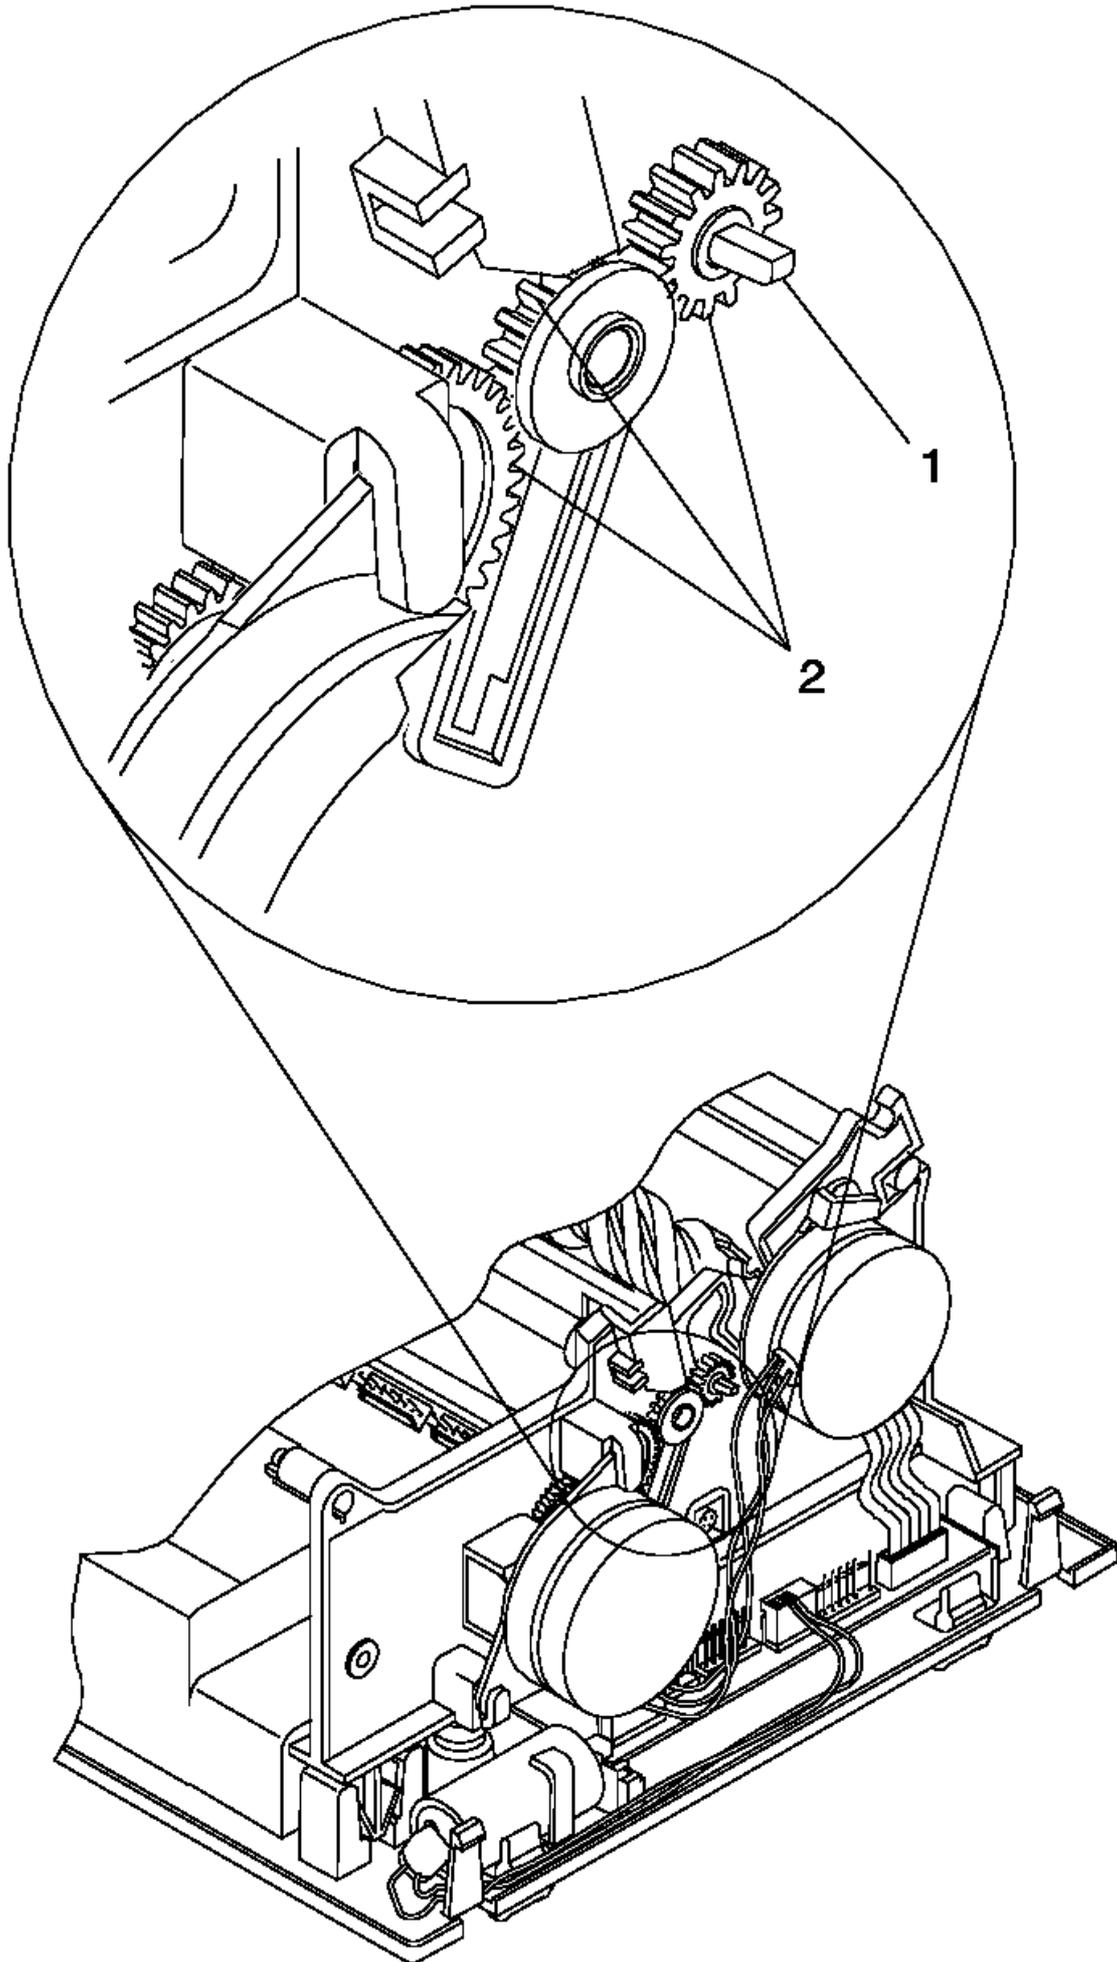

Figure 6-15. DI Gears
- Ensure that the gears, (2) in Figure 6-15, rotate and that there is no damage to their teeth.
- Ensure that the DI shaft, (1) in Figure 6-15, is not slipping and rotating inside the gear.
- Check the same conditions as above while pressing the DI down button (5).